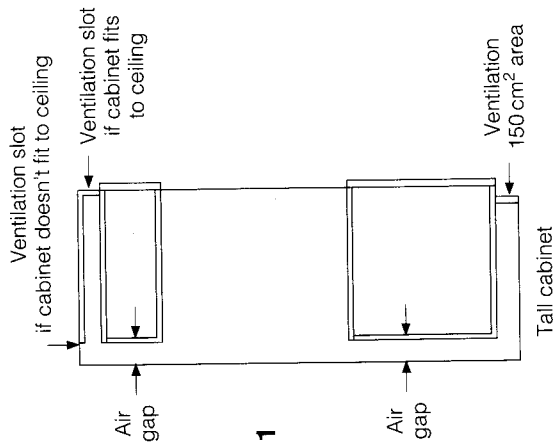

Fig. 1
- The air gap at the rear allows the warmed air to pass out of the cabinet. If cabinets extend up to the ceiling the warm air must be exhausted through to the front. Fig. 1. (See page 6.)